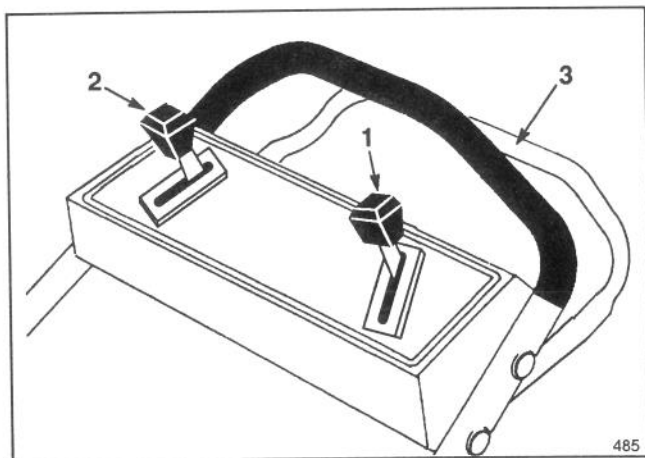
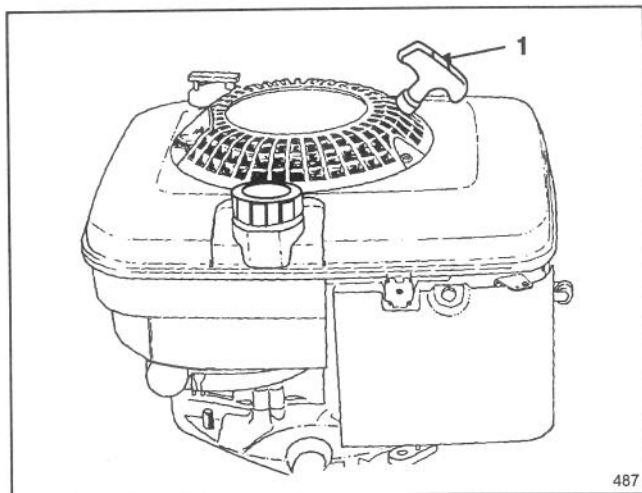

Figure 8
Figure 9
1. **CONTROLS** — Throttle, ground speed control and self-propel control bar are on upper handle (Fig. 8). Recoil starter is on top of engine (Fig. 9).
4. **GROUND SPEED** (Fig. 8) — Ground speed varies depending on distance between control bar and handle. Move ground speed control to desired setting. Number "1" is slow, "2" is medium, and "3" is a fast walking pace. Move ground speed control to "N" when using the mower for trimming and whenever leaving mower.
5. **WHEEL TRACTION OPERATION** (Fig. 8) — Move control bar into the RUN/SHIFT position. Move ground speed control to desired setting and squeeze control bar against handle to drive.